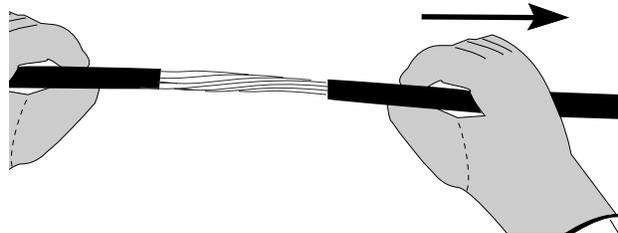

Figure 5
5.3 Remove the 15 cm (6 in.) section of sheath from the end of the cable – use care during this step to avoid damaging the buffer tubes (Figure 5).